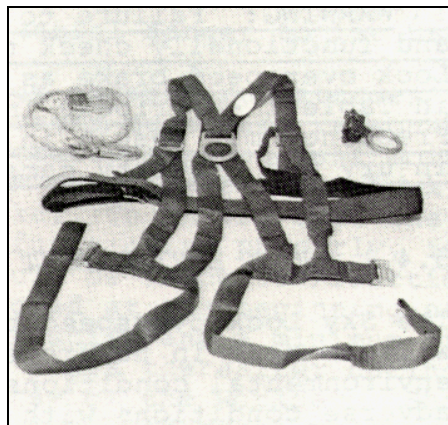

Figure 5.2
- 5.3.3 Inspect lanyard, safety belt or harness attachment hardware to insure that all items are in good condition and can be attached or removed without difficulty. Do not use webbed belts or lanyards with broken stitching. See Figure 5.2 for the type of operator safety equipment available from Sky Climber Europe.